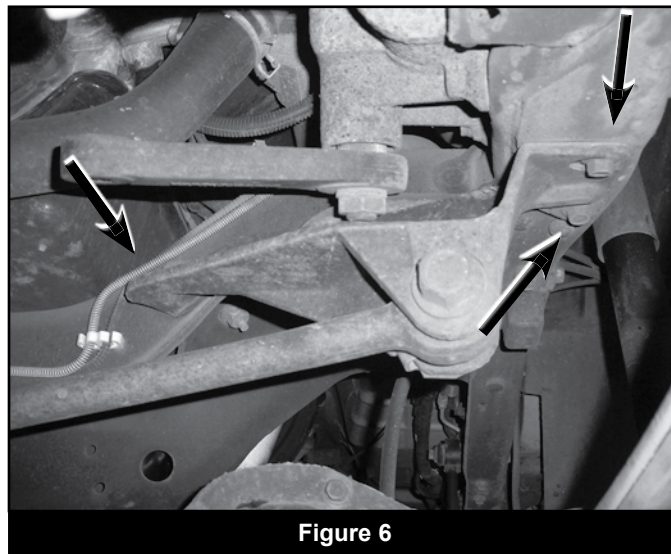

Figure 6
16. Remove the (3) bolts mounting the track bar bracket to the frame and front frame crossmember. The two bolts at the frame thread into a nut tab inside the frame (Fig 6). Remove the bracket from the vehicle. Save hardware.
17. Mark the relationship between the steering sector shaft and the pitman arm for reference. Remove the pitman arm nut/washer (Fig 6). Remove the pitman arm from the steering box sector shaft with an appropriate pitman arm puller. Save hardware.